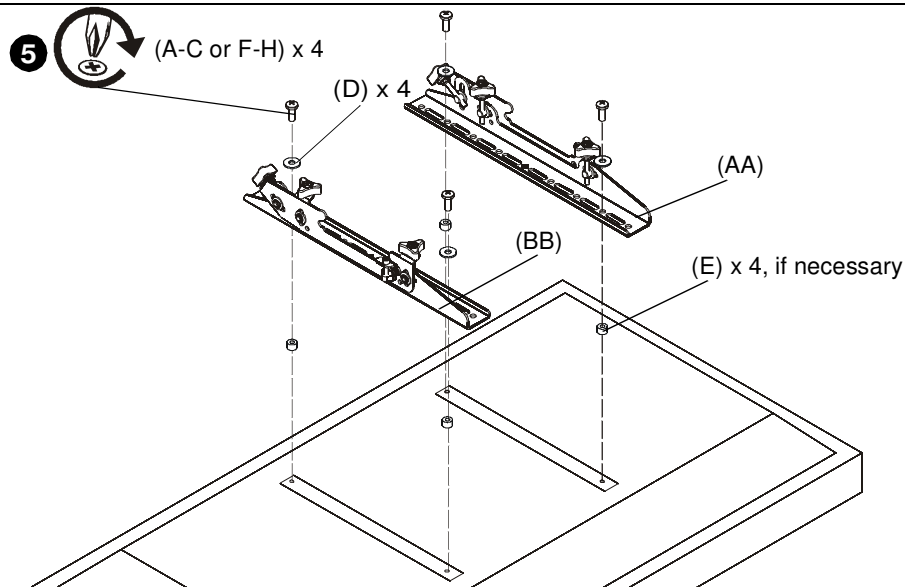

Figure 15
2. Select screw *diameter* by examining hardware (A-C and F-H) (6mm or 8mm) and comparing with mounting holes on display. (See Figure 15)
- If mounting holes are recessed, or if protrusions prevent brackets (AA and BB) from laying flat, then spacers (E) must be used.
4. Select screw *length*: (See Figure 15)
- Using your hand, insert **SHORTEST** length screw of selected diameter (A or F) through 1/4" washer (D), bracket (AA or BB), selected spacer (E, if required), into display mounting hole. Do NOT thread screw into hole at this time.
5. Use selected screws (A-C or F-H), washers (D) and spacers (E), if necessary, to connect interface brackets (AA and BB) to back of display. Make sure diamond on interface brackets is even with center of display. (See Figure 15)